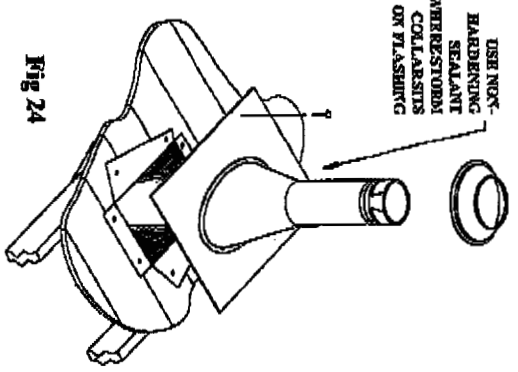

Fig 24
11. Slip the Flashing over the pipe section(s) protruding through the roof. Secure the base to the roof with roofing nails as shown in Figure 24. Insure that the roofing material overlaps the top edge of the Flashing (Refer to Figure 2).